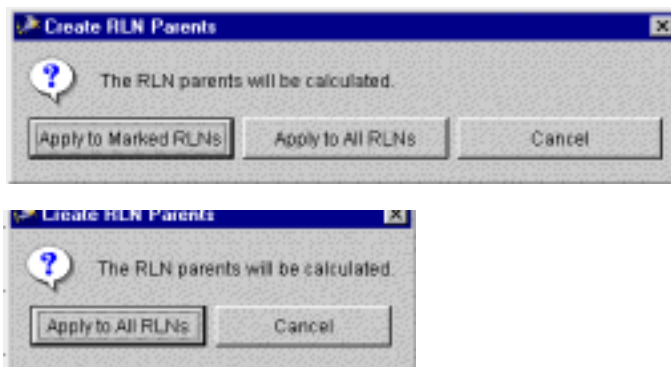

Figure 5.217 Create RLN Parents Windows
4. On the Tools menu, click Create RLN Parents>RLN. One of the following Create RLN Parents windows opens (Figure 5.217).